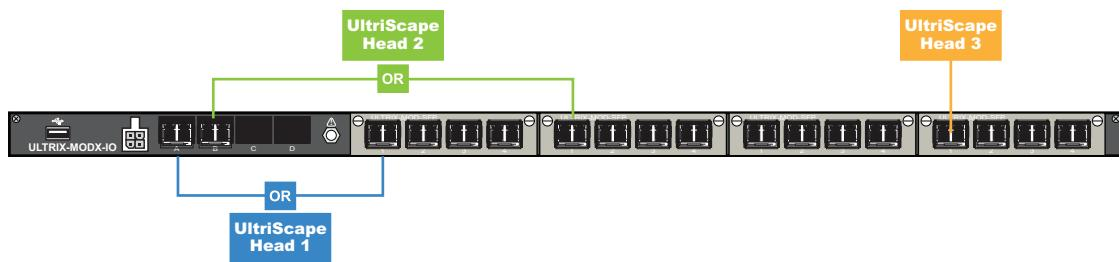

Figure 36 Example of UltriScape Head Mapping on a Single ULTRIX-MODX-IO Blade
- One Multiviewer Head (refer to **Figure 36**)
**Figure 36** illustrates the connections allocated for UltriScape Heads on an ULTRIX-MODX-IO with four ULTRIX-MOD-SFP.